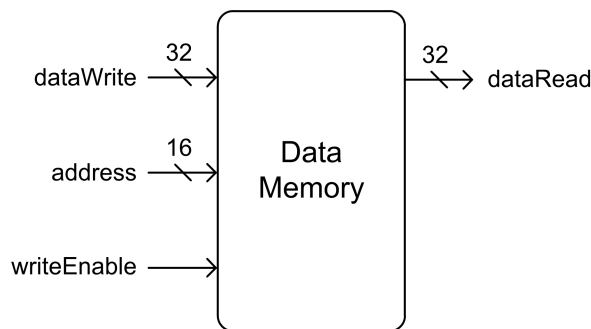

Figure 9: Interface of the DataMemory module.
The DataMemory module is also provided to you already implemented and it is the data memory of the CPU where the input image, the processed images, and other data are stored. The DataMemory has a size 65536 words of 32 bits and the CPU can both write and read to this memory. Figure 9 shows the interface of the memory. When the **writeEnable** input is false (0) the memory can be read in the same way as the ProgramMemory. When the **writeEnable** input is true (1), the 32 bits data provided to the **dataWrite** input is written in the specified **address**. Figure 10 shows the timing diagram for a read and for a write operation.